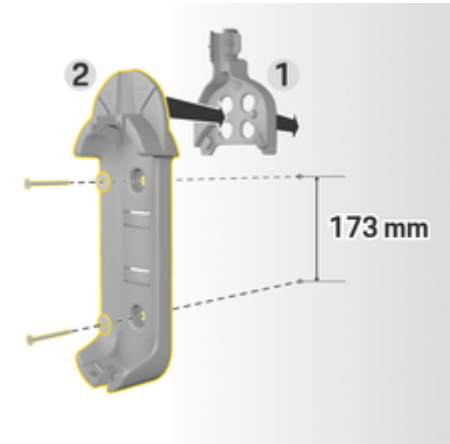

Fig. 3: Drilling dimensions
3. Press standard wall bracket **2** (Fig. 3) into cable guide **1** (Fig. 3) from the front.